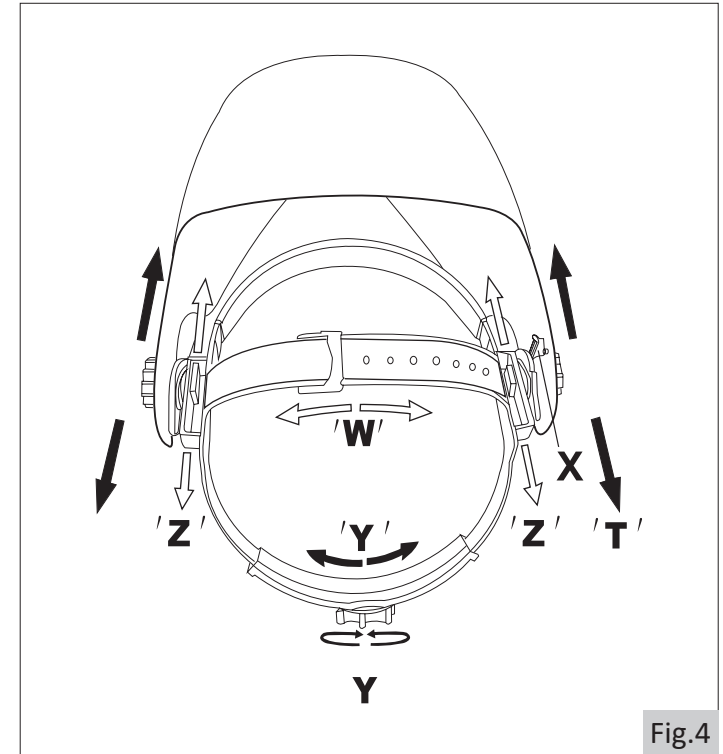

Fig.4
4.1 Headgear top (See adjustment “W” in Fig. 4)
4.2 Headgear tightness (See adjustment “Y” in Fig. 4)
4.3 Distance Adjustment(See adjustment “Z” and “T” in Fig. 4)
4.4 Angle adjustment (See adjustment “X” in Fig. 4)